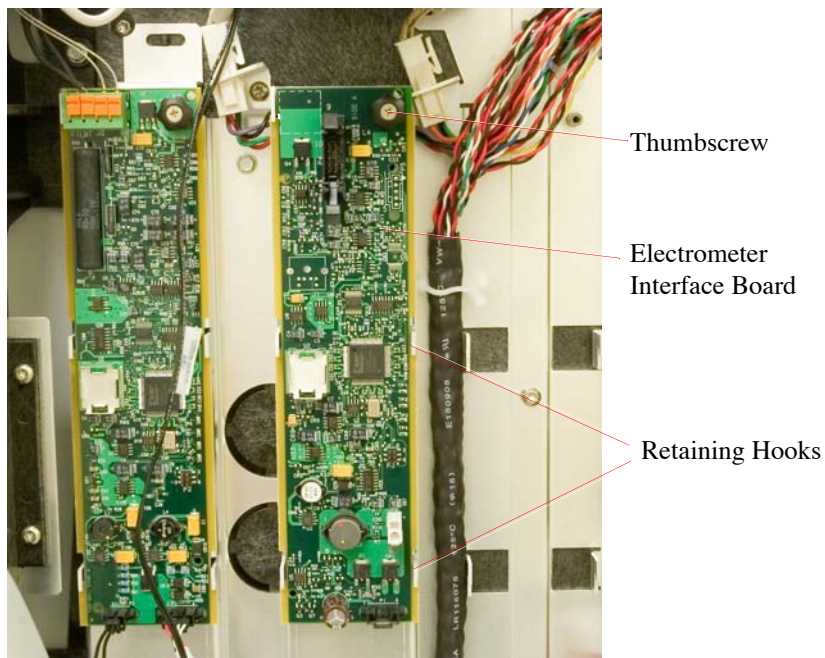

Figure 3.3. Attaching the Electrometer Interface Board
3. Align the electrometer interface board with the frame so that the captive thumbscrew is in the upper right-hand corner and the circuits are facing out. See Figure 3.3.
4. Starting with the board notches below the retaining hooks on the GC frame, slide the board up so that all slots engage all hooks, the board lies flat and evenly on the frame, and the captive thumbscrew aligns directly over the screw hole. See Figure 3.3.